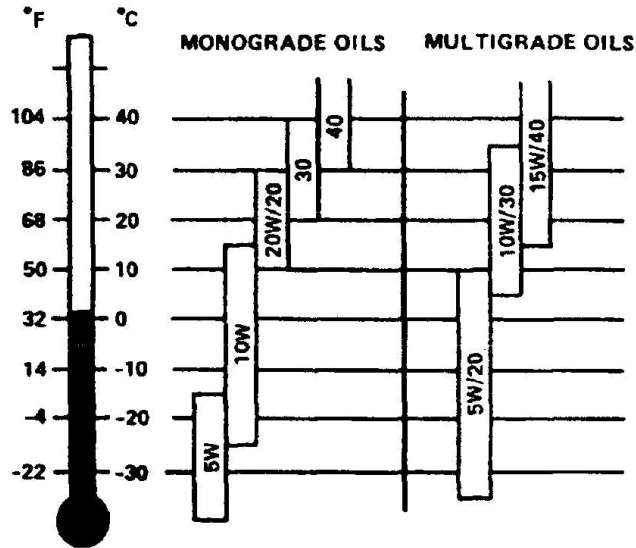

Fig 3-1
(1) Perform a 360-degree visual inspection on the pump. Look for loose or missing nuts and bolts, fuel and oil leaks and, any obvious signs of damage.
(2) Check the fuel level in tank. If low, refill with JP8 (diesel) only.
(3) Check the oil by observing the oil level on the dipstick. The dipstick is located on the lower left side of the motor while facing it. Refill with the appropriate oil according to Fig 3-1 and the ambient temperature.
(1) Perform a 360-degree inspection of the pump and 3,000 LMT itself. You would be looking for any obvious signs of damage, loose or missing nuts and bolts and, any cracks or leaks.
(2) Check the oil level in the pump motor. Refer to Fig 3-1 for the type to refill with.
(3) Check the air cleaner cyclone for clarity and obvious debris buildup.
(4) Check the fuel level. If you are going back into operation or not, it is always good to ensure that you have sufficient fuel in the tank to restart with.
6. Replace drain plug and fill crankcase with approximately one quart of new oil (see Fig 3-1 for oil selection).